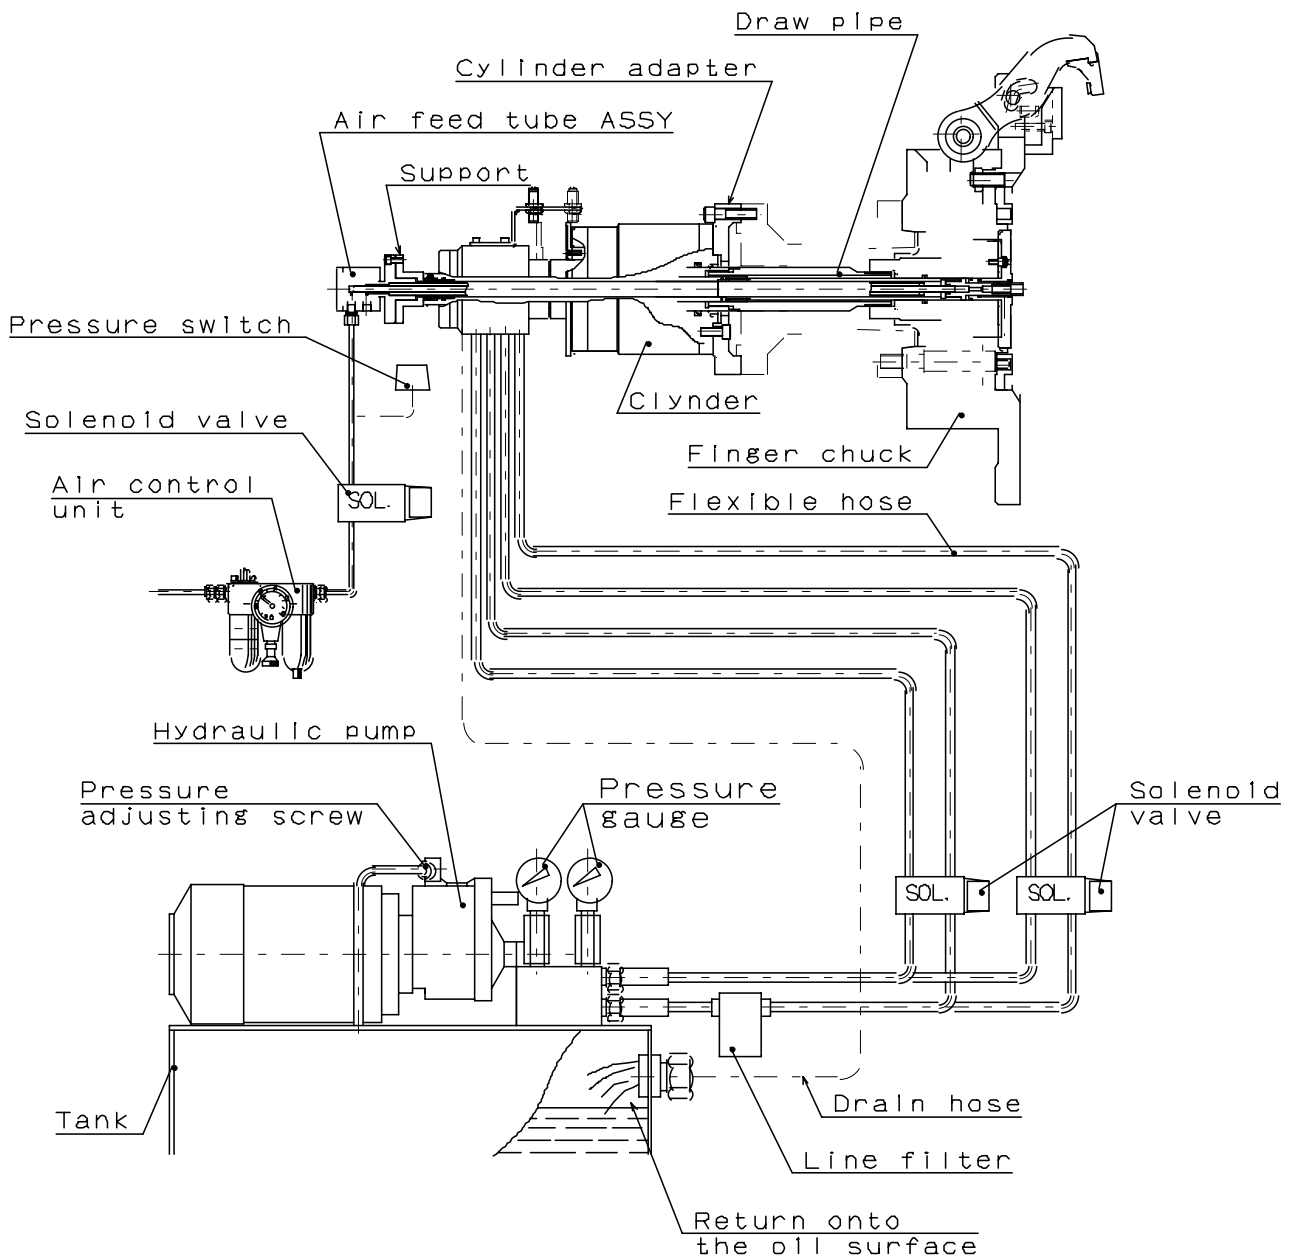

Fig.13
- **The end of the hose is physically above the oil level. (Refer to Fig.13)**